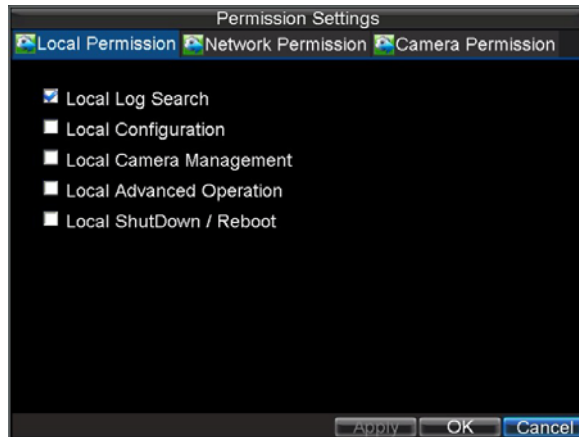

Figure 6. Permission Settings Menu
5. Select the Permission button to enter the Permission Settings menu, shown in Figure 6.